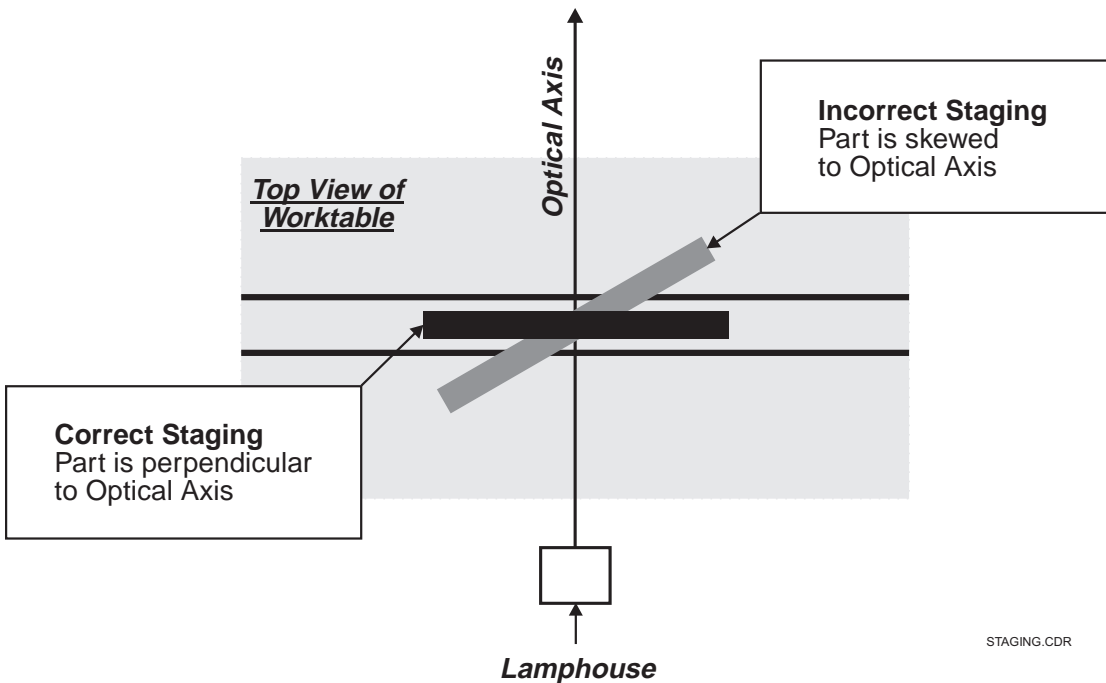

Figure 4-1. Correct and Incorrect Ways to Stage a Part
- To ensure that you are getting an accurate view of your part on the viewing screen, it must be mounted so that the part is square to your Contour Projector's light path — its "optical axis." Figure 4-1 shows the correct and incorrect ways to do this.